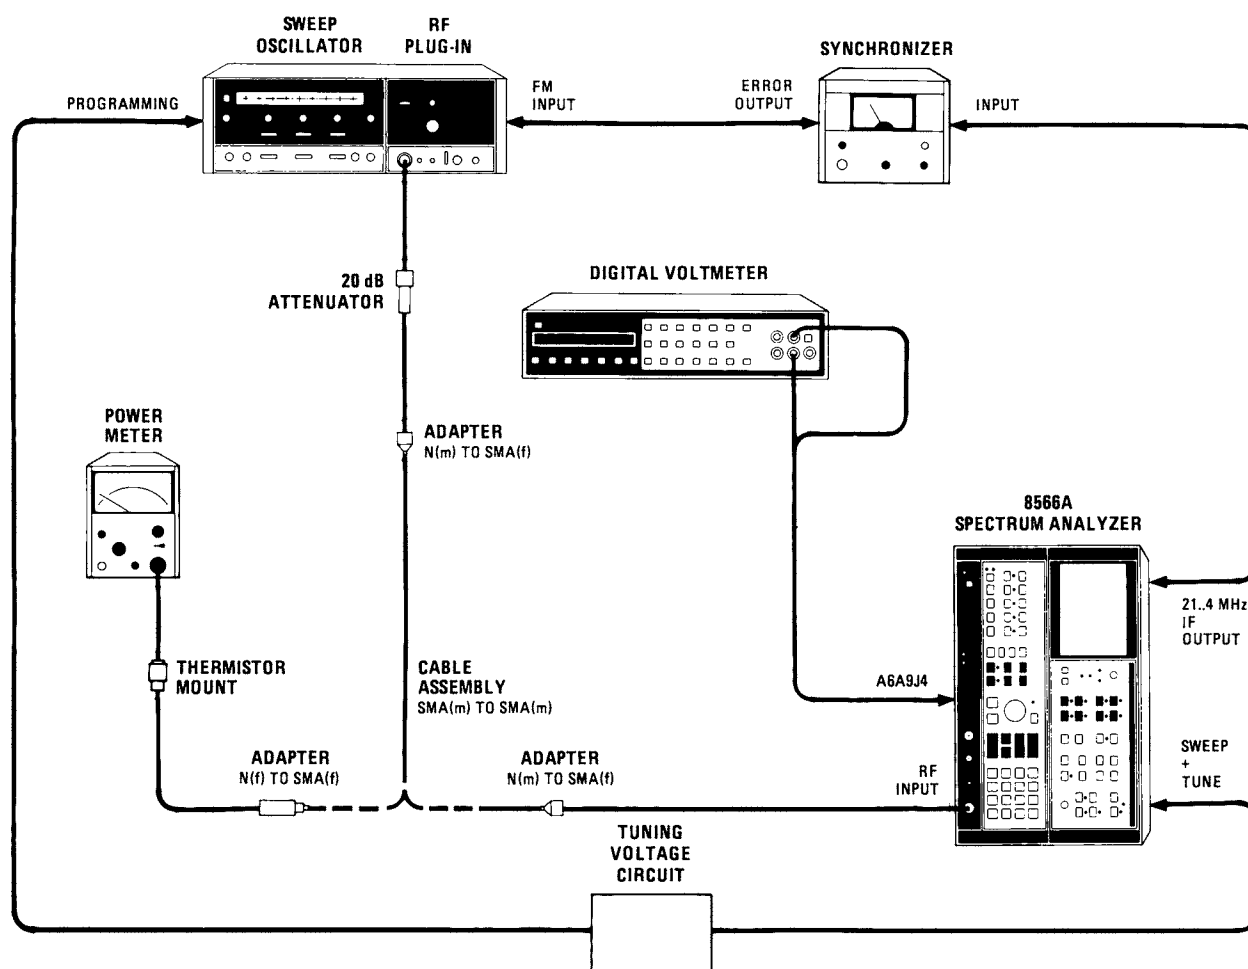

Figure 5-66. Frequency Response Adjustments Setup (10 MHz to 2.4 GHz)
3. Replace 86290B RF Plug-In with 86222A RF Plug-In (.01—2.4 GHz) and connect equipment as shown in Figure 5-66 with power meter/mount connected to sweep oscillator. Connect Tuning Voltage power supply as follows: +20V to A17TP4, -10V to A18TP4, and Ground to any convenient chassis ground.